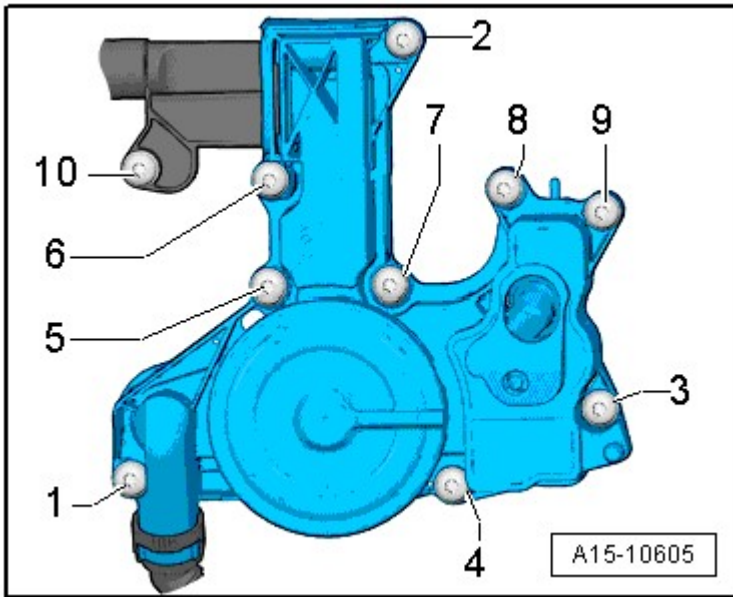

Fig. 14: Identifying Crankcase Ventilation - Tightening Sequence
- Tightening sequence, refer to **Fig. 14**